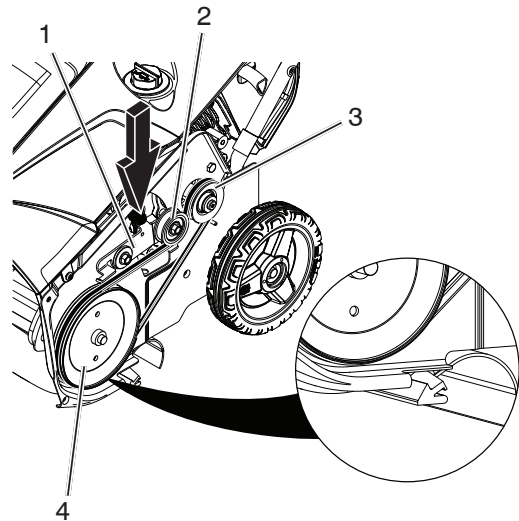

Figure 34
4. Install the new auger v-belt and drive pulley, routing it as shown in (Figure 34).